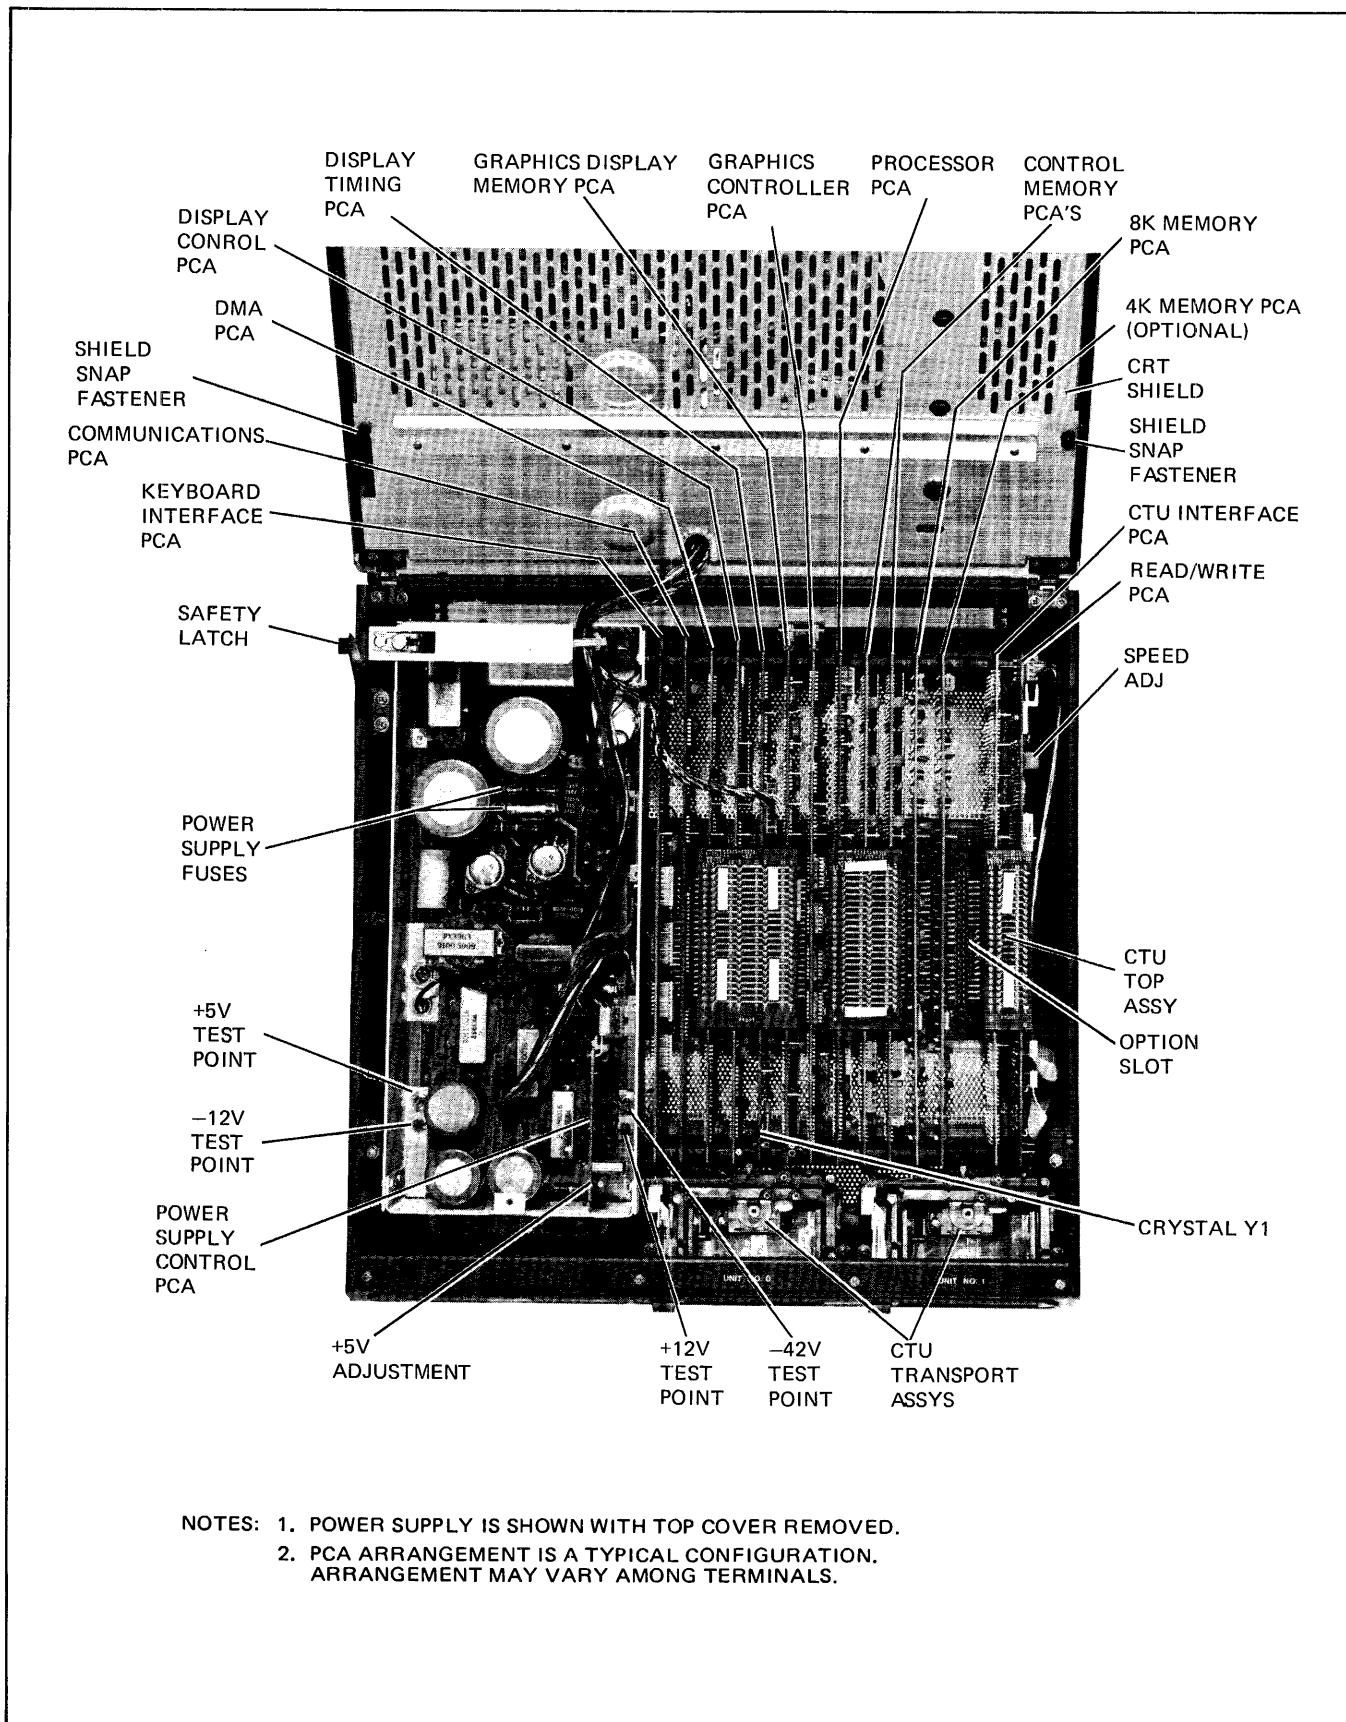

Figure 7-2. Mainframe Bottom Part Locations
- e. Firmly grasp top cover in one hand and release safety latch (see figure 7-2) by pressing it inboard with other hand. Then, using both hands, swing top cover up and over to a full open position (resting on its top).
4. ( ) If changing from 60 Hz to 50 Hz operation or vice versa, ensure that crystal Y1 on the Display Timing PCA (figure 7-2) is changed. For 60 Hz operation, use a 21.06 MHz crystal (part no. 0410-0647) and for 50 Hz operation, use a 17.55 MHz crystal (part no. 0410-0646).